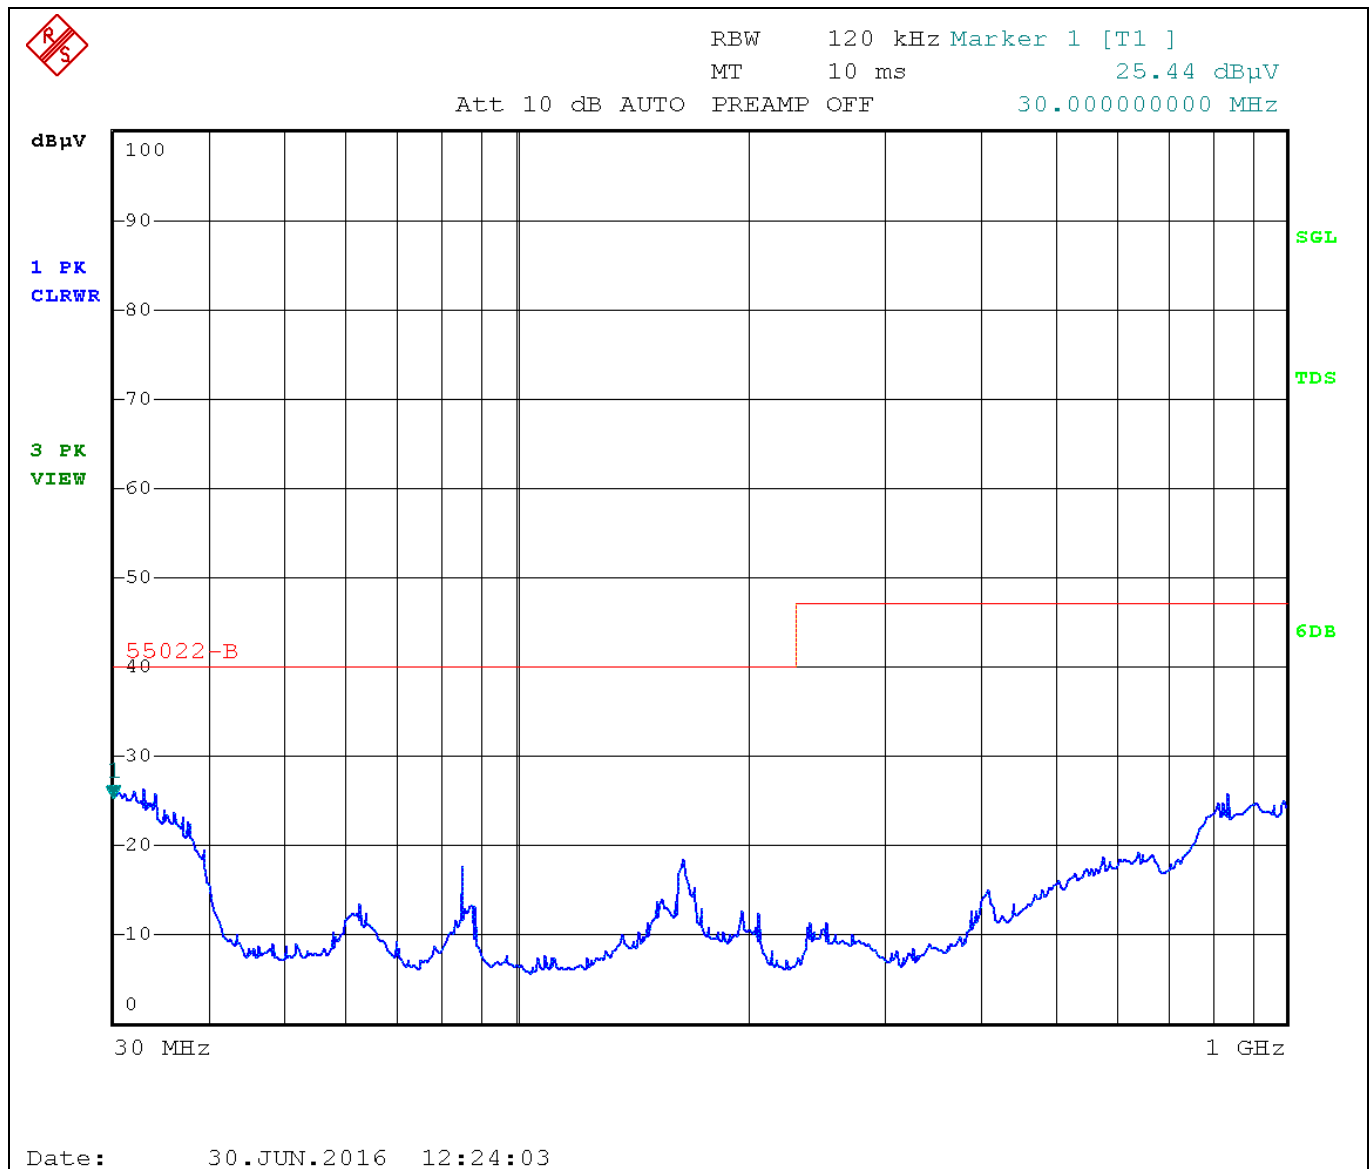

Figure 17 EMI-radiated measurement results. Board positioned toward antenna. Antenna position is vertical
- Board was positioned toward the antenna and the antenna was vertical (Figure 17)